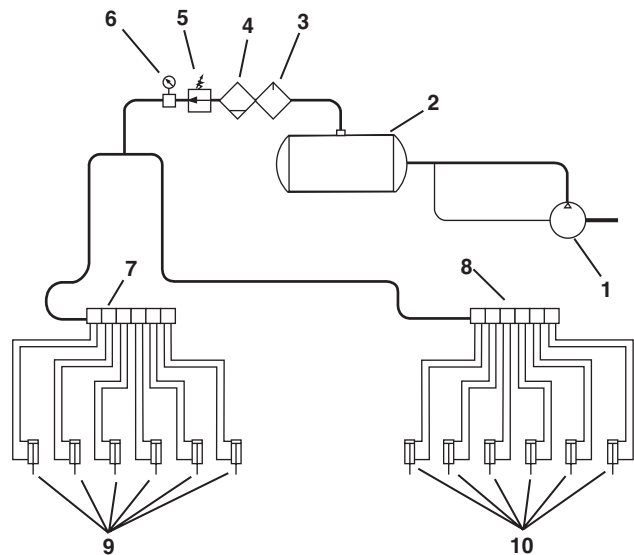

Figure 17. Air System
1. Set the main pressure regulator at 80 psi. (Figure 17)